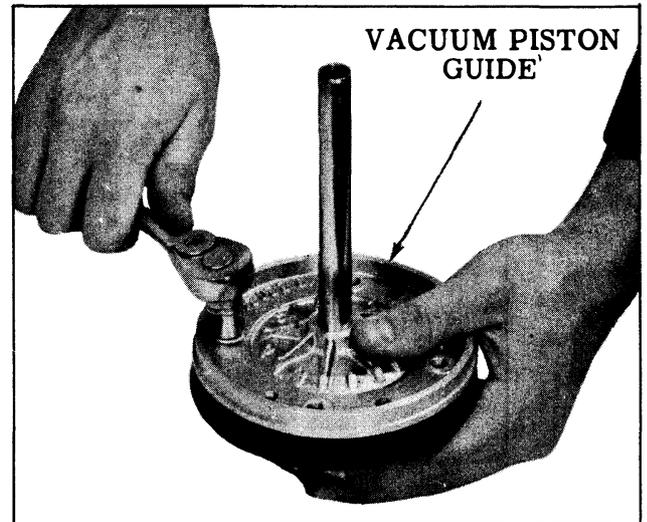

Fig. 7-18 Removing Vacuum Piston Guide
6. Set the vacuum piston assembly on hub end and loosen the four vacuum piston cap screws. (See Fig. 7-18) Press down on the piston guide and remove the screws, then lift off the piston guide and hydraulic plunger assembly. Remove "O" ring from vacuum piston guide.